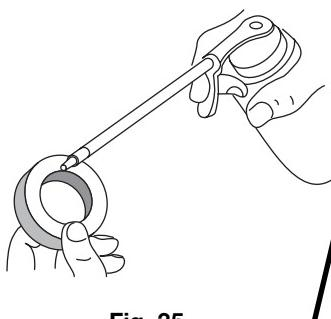

Fig. 35
4. Apply enough clean SAE 30 oil to lightly coat the filter (Fig. 35).